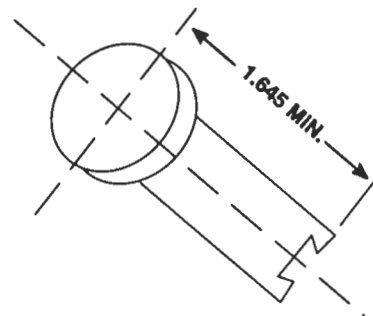

Figure 19. Injector Follower
- a. Measure between the top of the follower and the slot. This dimension must be $1.647 \pm .002$ inch (Figure 19.)